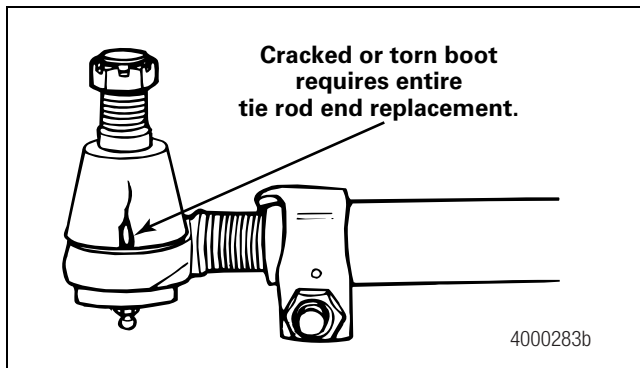

Figure 3.17
4. Check the tie rod boot for cracks, tears or other damage. Also check the boot seals for damage. Replace the entire tie rod end if the boot is damaged or missing. Figure 3.17.